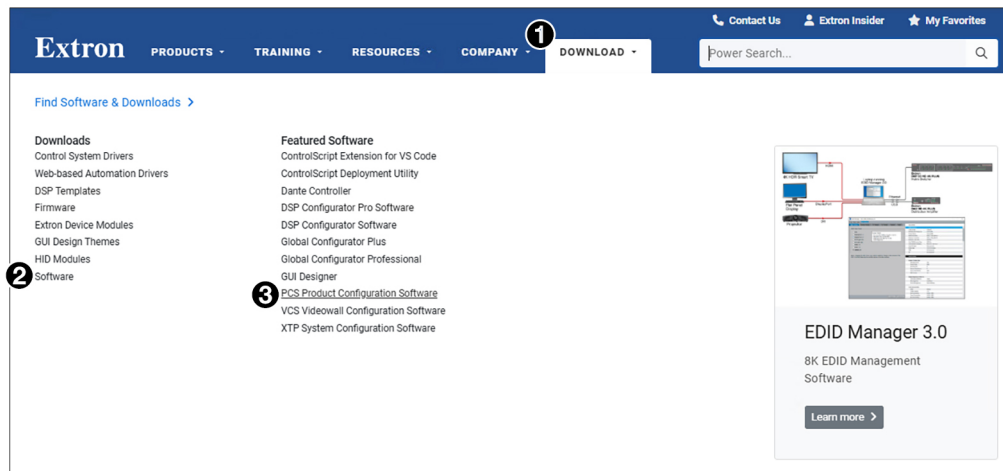

Figure 9. Download Center Page on the Extron Website
1. On the Extron website, hover the pointer over the **Download** tab (see figure 9, ①).
2. Click the **Software** link (②) in the Downloads column, or if PCS is listed, click the **PCS** link (③).
If the PCS Product Configuration Software link (see figure 9, ③ on page 25) is clicked, the PCS product page opens (see figure 12).